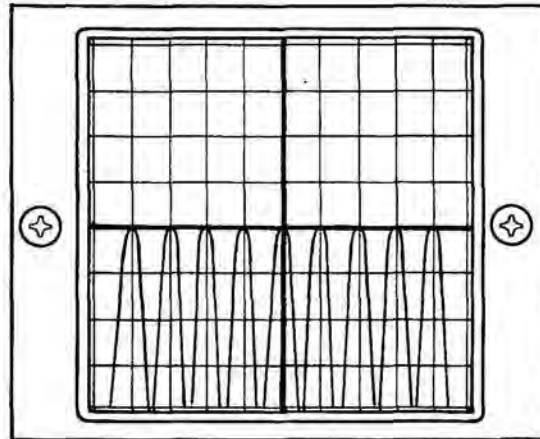
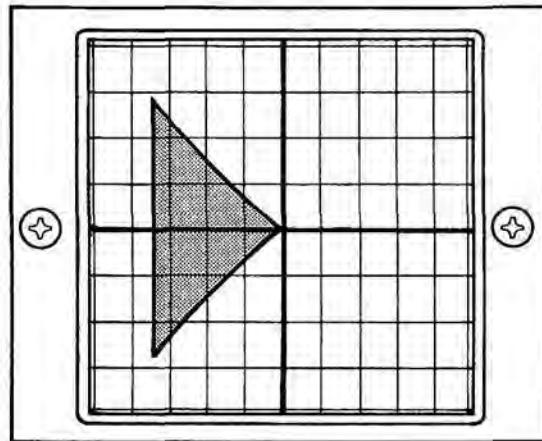

Figure 3-31 Displayed Waveform Peaks Centered Over Vertical Axes
Figure 3-32 Typical Triangular Waveform
15. Using HORIZ Control (38), align waveform so centermost positive peak of waveform is centered over major vertical axis. Also verify that peak to right of centermost peak is also centered over vertical axis (within ± 1 minor graticule division). (See Figure 3-31.)
16. Rotate SWEEP Control (29) to "10 mS" and MODULATION FREQ Hz Thumbwheels (27) to "00100.0".
17. Using HORIZ Control (38), position waveform so centermost positive peak of waveform is centered over major vertical axis. Also verify that peak to right of centermost peak is also centered over vertical axis (within ± 1 minor graticule division). (See Figure 3-31.)
18. Rotate SWEEP Control (29) to ".1 mS" and MODULATION FREQ Hz Thumbwheels (27) to "09999.9".
19. Using HORIZ Control (38), position waveform so centermost positive peak of waveform is centered over major vertical axis. Also verify that peak to right of centermost peak is also centered over vertical axis (within ± 1 minor graticule division). (See Figure 3-31.)
20. Remove BNC Connector from INT MOD OUT Connector (24) and reconnect it to TRANS/RCVR Connector (9).
21. Rotate DEV-VERT Control (33) to ".01 V/DIV", SWEEP Control (29) to "10 μ S", and VAR/OFF Control (25) fully ccw, to detent (OFF).
22. Using HORIZ Control (38), position waveform so centermost positive peak of waveform is centered over major vertical axis. Also verify that peak to right of centermost peak is also centered over vertical axis (within ± 1 minor graticule division). (See Figure 3-31.)
23. Remove BNC Connector from TRANS/RCVR Connector (9) and connect it to INT MOD OUT Connector (24).
24. Rotate SWEEP Control (29) to "MODULATION FREQ Hz", MODULATION FREQ Hz Thumbwheels (27) to "01000.0", and DEV-VERT Control (33) to "15 kHz".
25. Adjust VAR/OFF Control (25) cw until a triangular waveform is displayed on CRT Display (36) as shown in Figure 3-32.